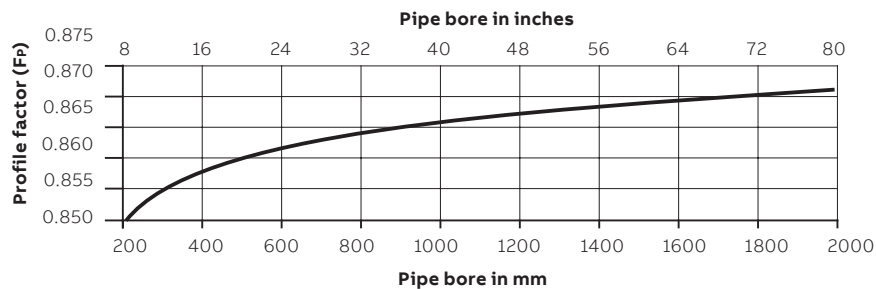

Figure 16 Profile factor vs. velocity for pipe sizes 200 to 2,000 mm (8 in to 80 in)
- 2 Determine the profile factor F_P from Figure 16.
$F_P = 0.861$ (derived from Figure 16)